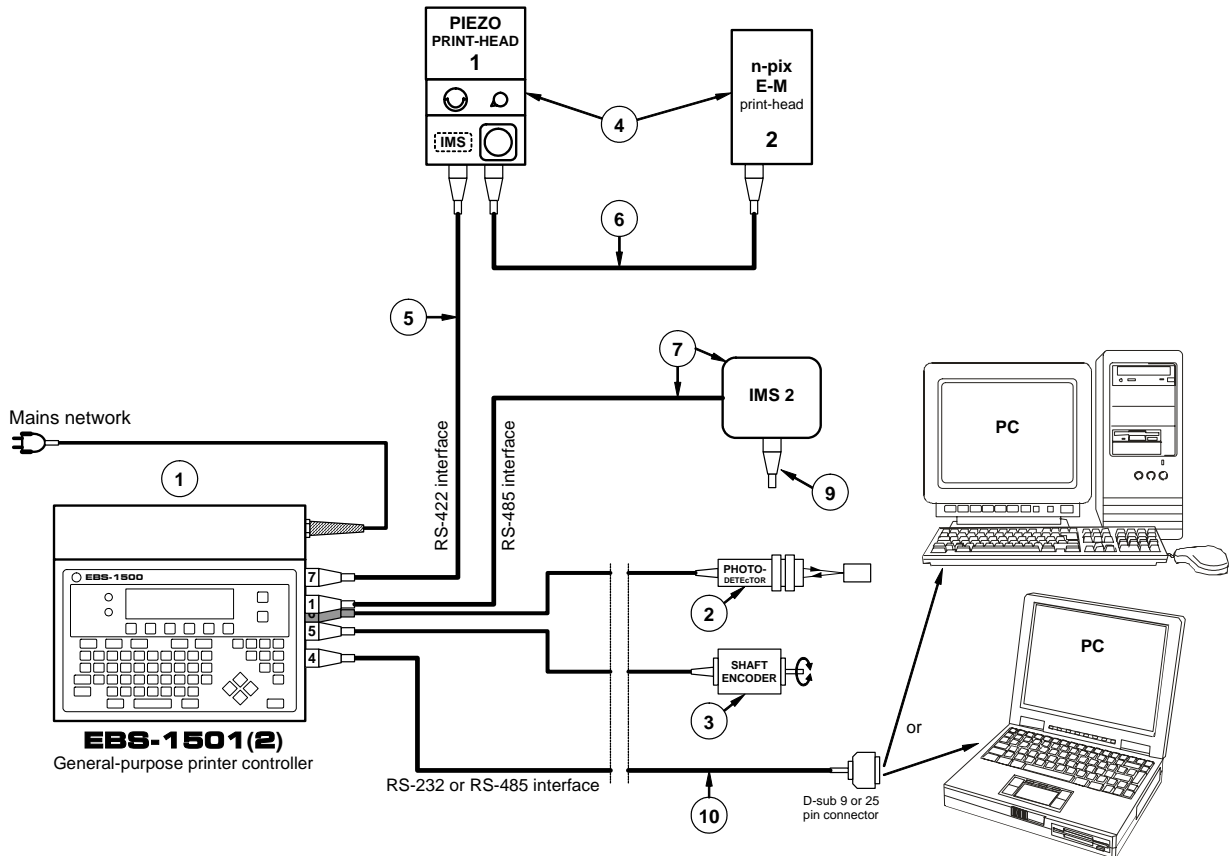

Fig. 4.6.1.1. Connection diagram for a printing system with one piezoceramic print-head and one electromagnetic print-head
- The two-head printing system shown in **Fig. 4.6.1.1** is an illustration of how to connect the system elements. The system will work properly only when the requirements presented in section **4.1 Restrictions on Printing System Configuration** are satisfied and when it is designed in compliance with the guidelines given in section **4.7 Rules for designing a multi-head printing system**.